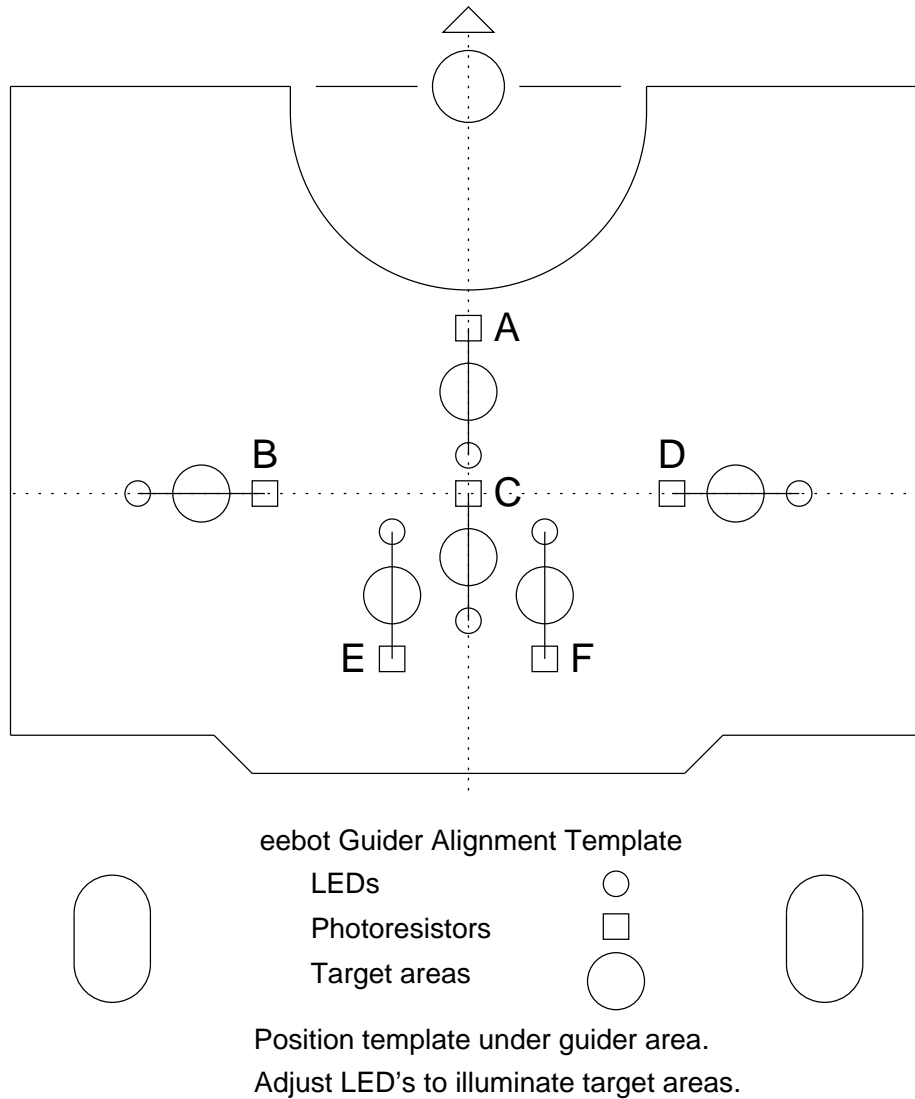

Figure 3: Guider Sensor Template
A template for checking the guider LED illumination pattern is shown in figure 3 on page 5.
3. Make a full-sized copy of the template of figure 3. Place it under the eebot guider, lined up with the front sphere and rear driving tires as marked on the template.